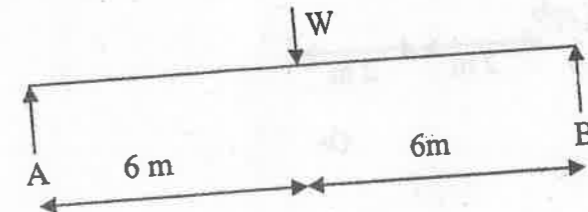

Fig. 2
8. Develop the flexibility matrix for the simply supported beam shown in the fig. 2